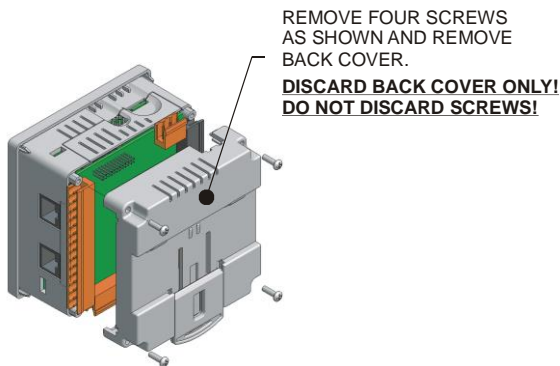

Figure 1 - Removing Back Cover of the XLE
- b) Remove the four screws on the back of the XLE unit and remove the back cover. The back cover can be discarded or saved, but it will be replaced with the extended back cover that ships with the communication add-on. Screws are re-used (Figure 1).